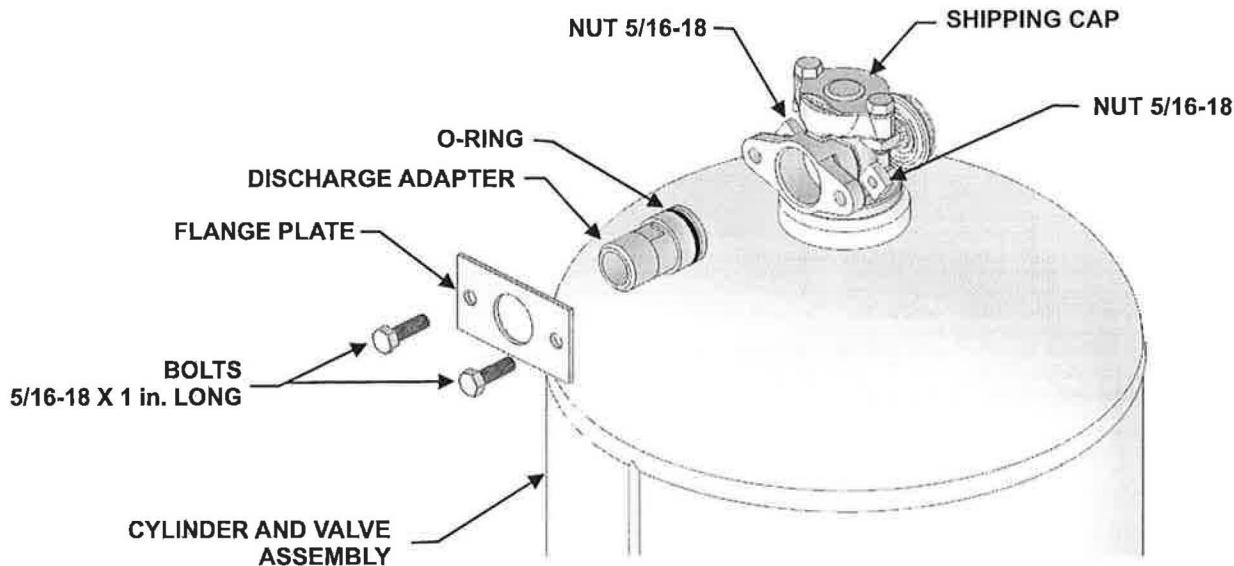

Figure 5-5. Removing Discharge Adapter Kit
9. Disconnect Discharge Adapter Kit (agent piping) from all cylinders (see Figure 5-5).